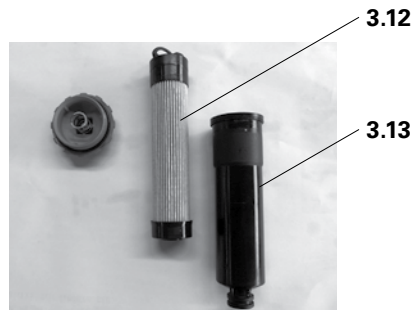

Fig. 25
2. Clean filter element (3.12); if necessary, dispose of correctly and replace with a new filter. (Fig. 25)